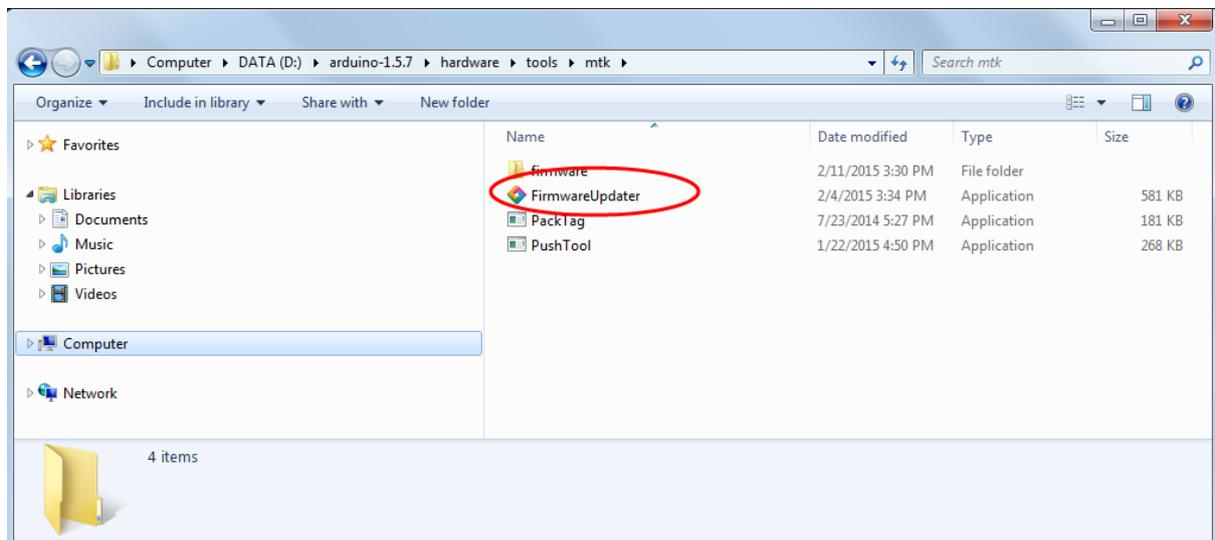

Figure 21 The location of LinkIt ONE Firmware Updater in the Arduino IDE folder
- a) On Windows it's located in the Arduino IDE folder under hardware/tools/mtk, as shown in Figure 21.